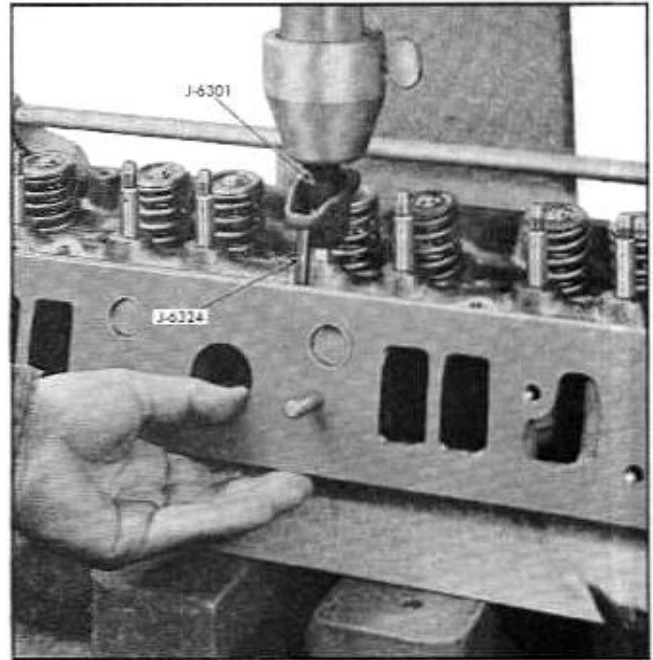
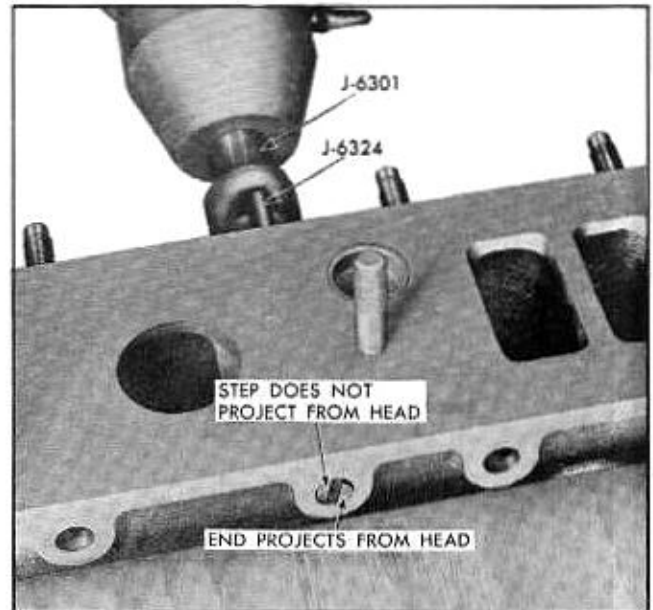

Fig. 6-21 Pressing in New Rocker Arm Stud
Fig. 6-22 Step of Gauge When Stud is Properly Installed
When installing new head, ream valve guide as outlined on page 6-30, and check concentricity of valve seat with valve, and valve stem with valve guide as outlined on page 6-29. Transfer all serviceable parts to new head using new seals on intake valve stems, and new exhaust manifold gasket. Install new water passage plug using gasket cement, and install new intake manifold mounting studs. Check rocker arm position with valve train gauge J-6324 (Fig. 6-22).
rocker arm and rocker arm stud installer over hole in head (Fig. 6-21).
12. With valve seated, slowly press rocker arm stud into cylinder head (Fig. 6-21) until gauge projects about midway between the end of the gauge and the step with respect to the gasket surface of the cylinder head (Fig. 6-22).